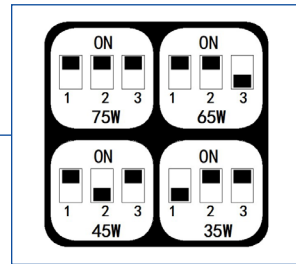

Fig. 13
2. Toggle the DIP switches to select the desired wattage (Fig. 13) and replace the cap once finished.